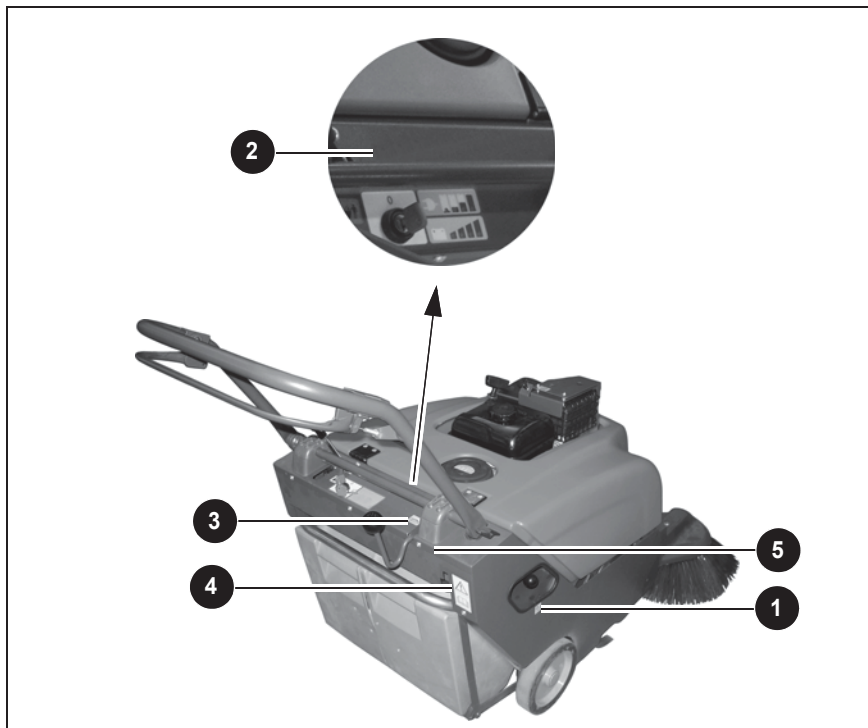

Fig. 3
**Shaking device** (Fig. 3/1)
**Type of machine** (Fig. 3/2)
**Lower/Raise side brush** (Fig. 3/3)
**Read and observe the instruction manual** (Fig. 3/4)
**Gradient** (Fig. 3/5)